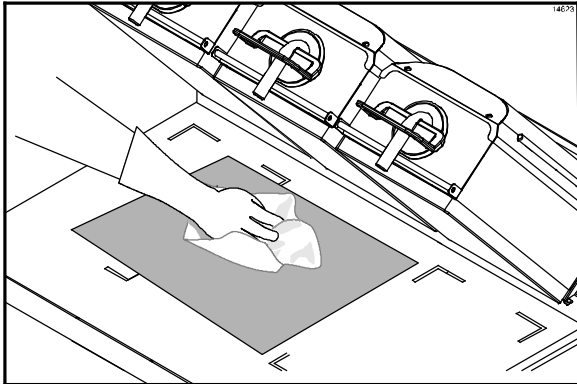

Figure 65
- 39. One at a time, place the upper and lower release sheets on the lower grill surface. Wipe both sides of each release sheet with a clean, sanitizer-soaked grill cloth. (See Figure 65.)